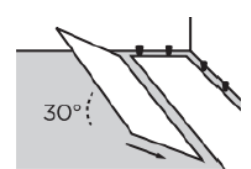

Figure 3
11. Position the first plank of the second row by angling it up slightly, pushing forward and interlocking the side tongue (**Figure 3**). Slide the plank to the right to align the edges of the end joint.